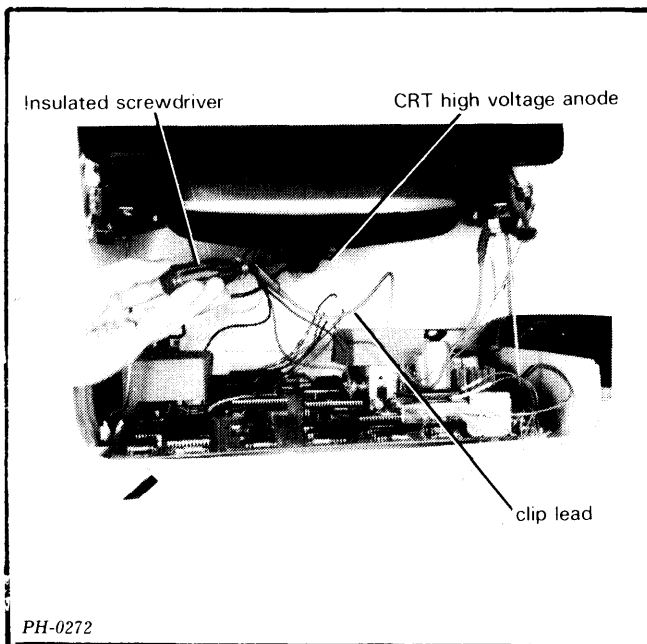

Figure 8.20 Discharging the CRT
4. DISCHARGE THE HIGH VOLTAGE IN THE CRT as follows (see figure 8.20):